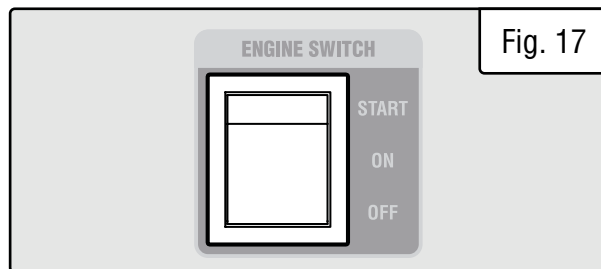

Fig. 17
6. Push the engine switch (Fig. 17) to the OFF position.
5. Open up the carburetor drain screw (Fig. 17 - 2) with a Phillips-head screwdriver and drain out any gasoline that has built up inside the carburetor through the included funnel into the approved gasoline-storage container.